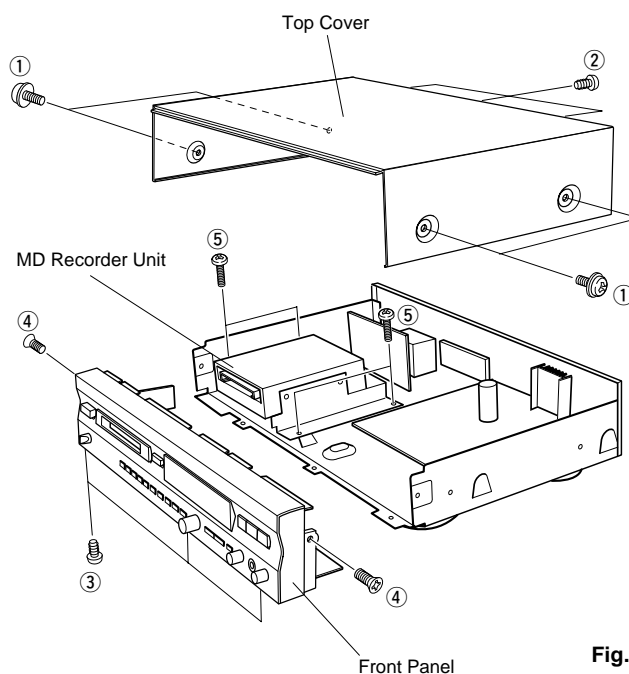

Fig. 1
- a. Remove 4 screws ( ① ) and 3 screw ( ② ) in Fig. 1.
- b. Remove 3 screws ( ③ ) in Fig. 1.
- c. Remove 2 screws ( ④ ) in Fig. 1.
- b. Remove 4 screws ( ⑤ ) in Fig. 1.